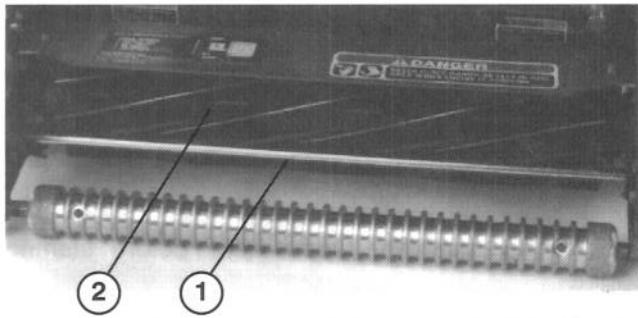

Figure 13
1. Measure distance from top of front support rod to the front lip of the shield at each end of cutting unit (Fig. 13).